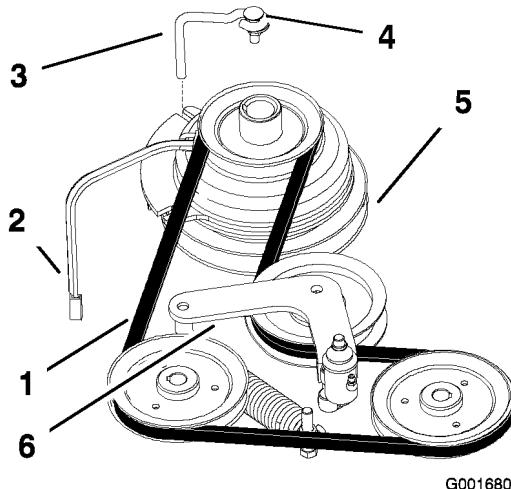

Figure 51
2. Remove the bolt from the clutch stop and unplug the clutch electrical wire (Figure 51).
4. Remove the traction belt from the engine and the hydraulic pump pulleys (Figure 51).
5. Install the new belt around the engine and the hydraulic pump pulleys (Figure 51).
- Release the pressure on the spring loaded idler (Figure 51).